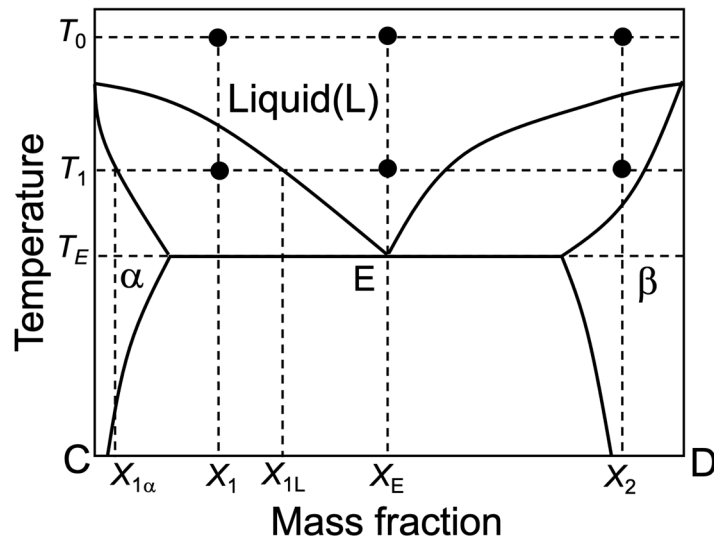

Figure 2
2. Consider the microstructure formation of the C-D binary eutectic alloy shown in the phase diagram in Figure 2. Answer the following questions.
(1) Show the mass proportion of phase  $\alpha$  in the alloy,  $W_\alpha$ , when the alloy with mass fraction  $X_1$  shown in Figure 2 is in equilibrium at temperature  $T_1$ , using  $X_{1\alpha}$ ,  $X_{1L}$ , and  $X_1$ .
(2) Consider the case where alloys with mass fractions  $X_1$ ,  $X_E$ , and  $X_2$  shown in Figure 2 are cooled slowly from  $T_0$  while maintaining equilibrium. Draw schematic images of the microstructure of each alloy at  $T_1$ , just above  $T_E$ , and just below  $T_E$ , and explain the characteristics of each image in about 120 words in total.